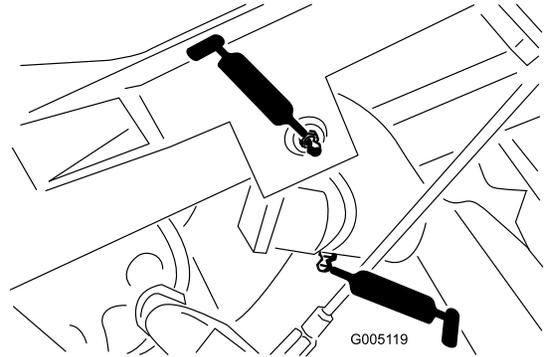

Figure 31
- Lift-arm pivot (3) and pivot hinge (3) (Figure 31)